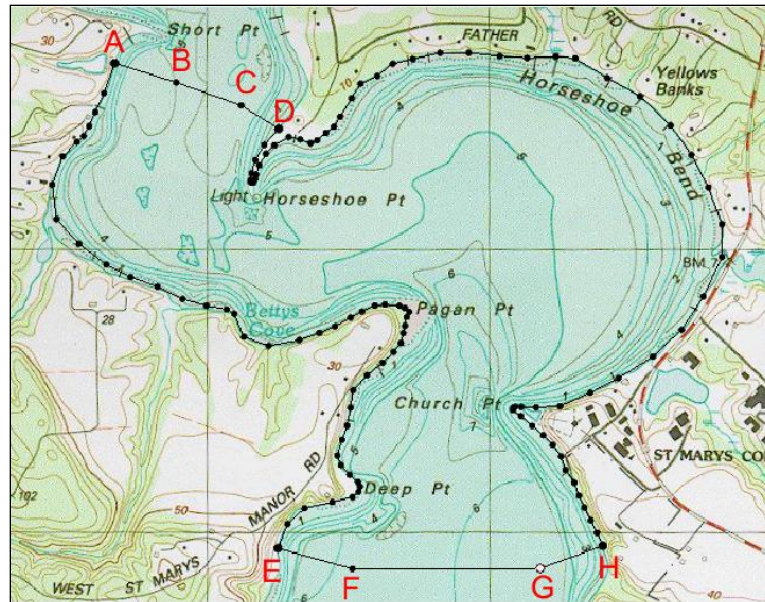

Figure 2 Initial domain
1. Using the **Create Feature Arc**  tool, click on the node at the top of the right bank arc (point A in the upper left side of Figure 2) to start creating an arc.
2. Click to create a vertex roughly one third of the way across the channel at as close to a right angle as possible (point B in Figure 2).
3. Click to create a second vertex roughly two thirds the way across the channel that is perpendicular to the first segment on the left bank (point C in Figure 2).
4. Click on the node at the top of the left bank arc (point D in Figure 2) to complete the arc and close off the upstream end of the river.
5. Repeat steps 1–4 to create an arc that closes off the downstream end of the channel as seen in Figure 2.